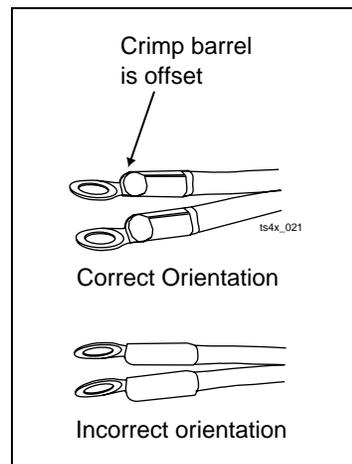

Figure 9. Orientation of Line Cord Screw Lugs
1. From the outside of the housing, slide the screw lugs of a new line cord through the hole in the end of the test set housing. Make sure the crimp barrel offset side of the screw lugs is up (see Figure 9) and that the line cord screw lugs are flush against the circuit board.